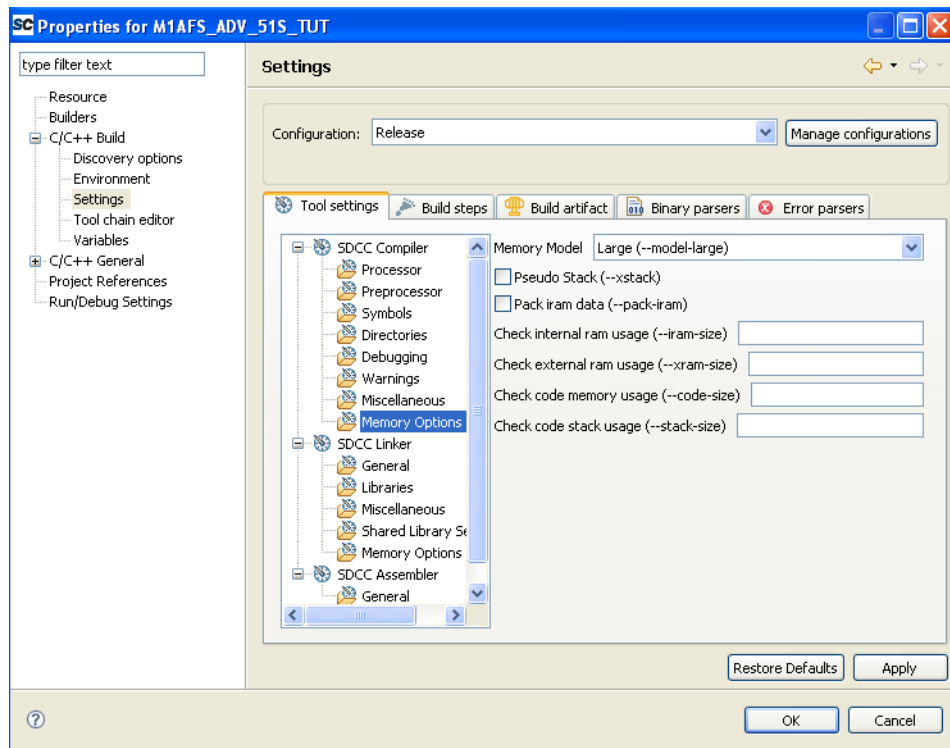

Figure 4-6 · Memory Options for 8051
4. In the **Tool Settings** tab, under **SDCC Compiler**, select **Memory Options** (Figure 4-6).